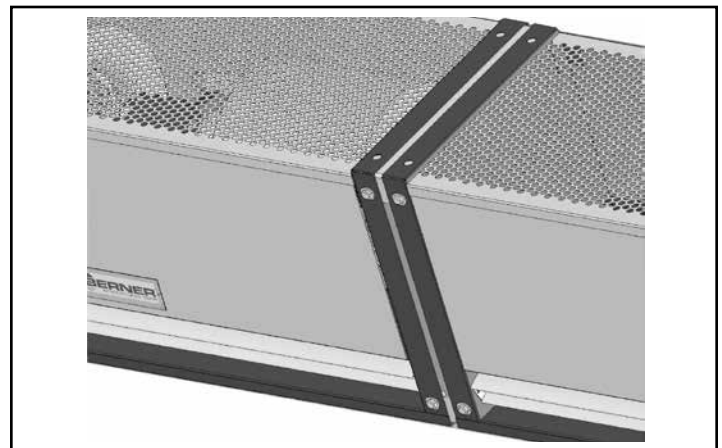

FIGURE 9 - Tandem Mounting
- D. Slide the end plate of the next unit over the brackets installed in Step C and attach using (4) additional 1/2" bolts as shown in **Figure 9.**